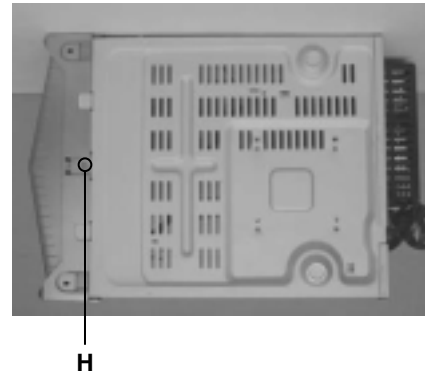

Fig.10
■ Removing the front panel assembly (See Fig.10 to 11)